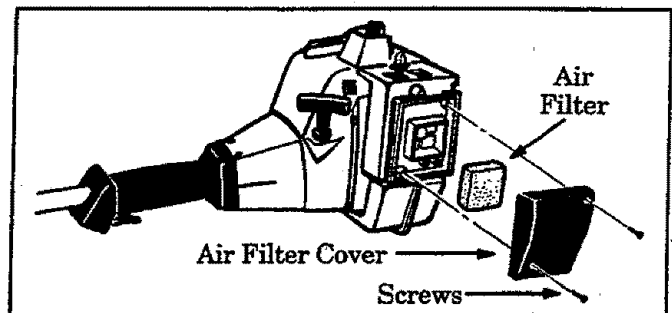

Figure 19
- a. Remove the two screws from the air filter cover. Remove air filter cover. Figure 19.
- b. Remove the air filter. Figure 19.